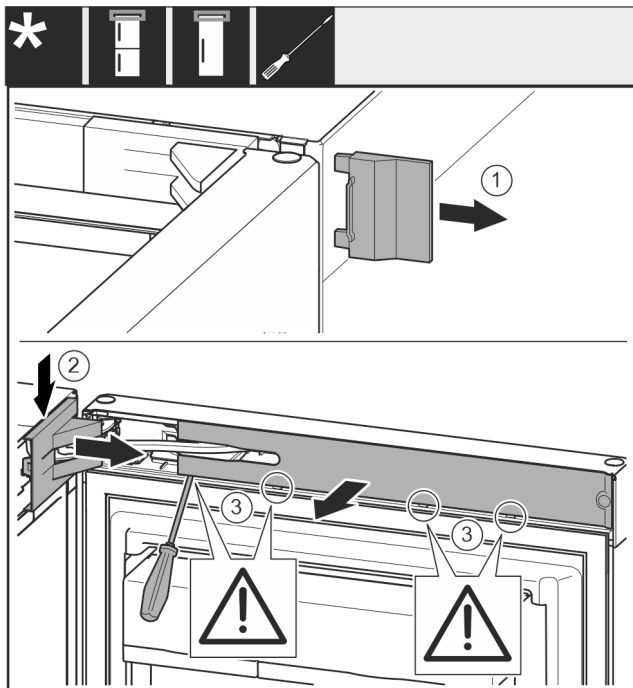

Fig. 8
- Remove the outer cover. Fig. 8 (1)
- Disengage and release the bearing bracket cover. Remove the bearing bracket cover. Fig. 8 (2)
- Unlatch the panel with a slotted screwdriver and swivel it to one side. Fig. 8 (3)